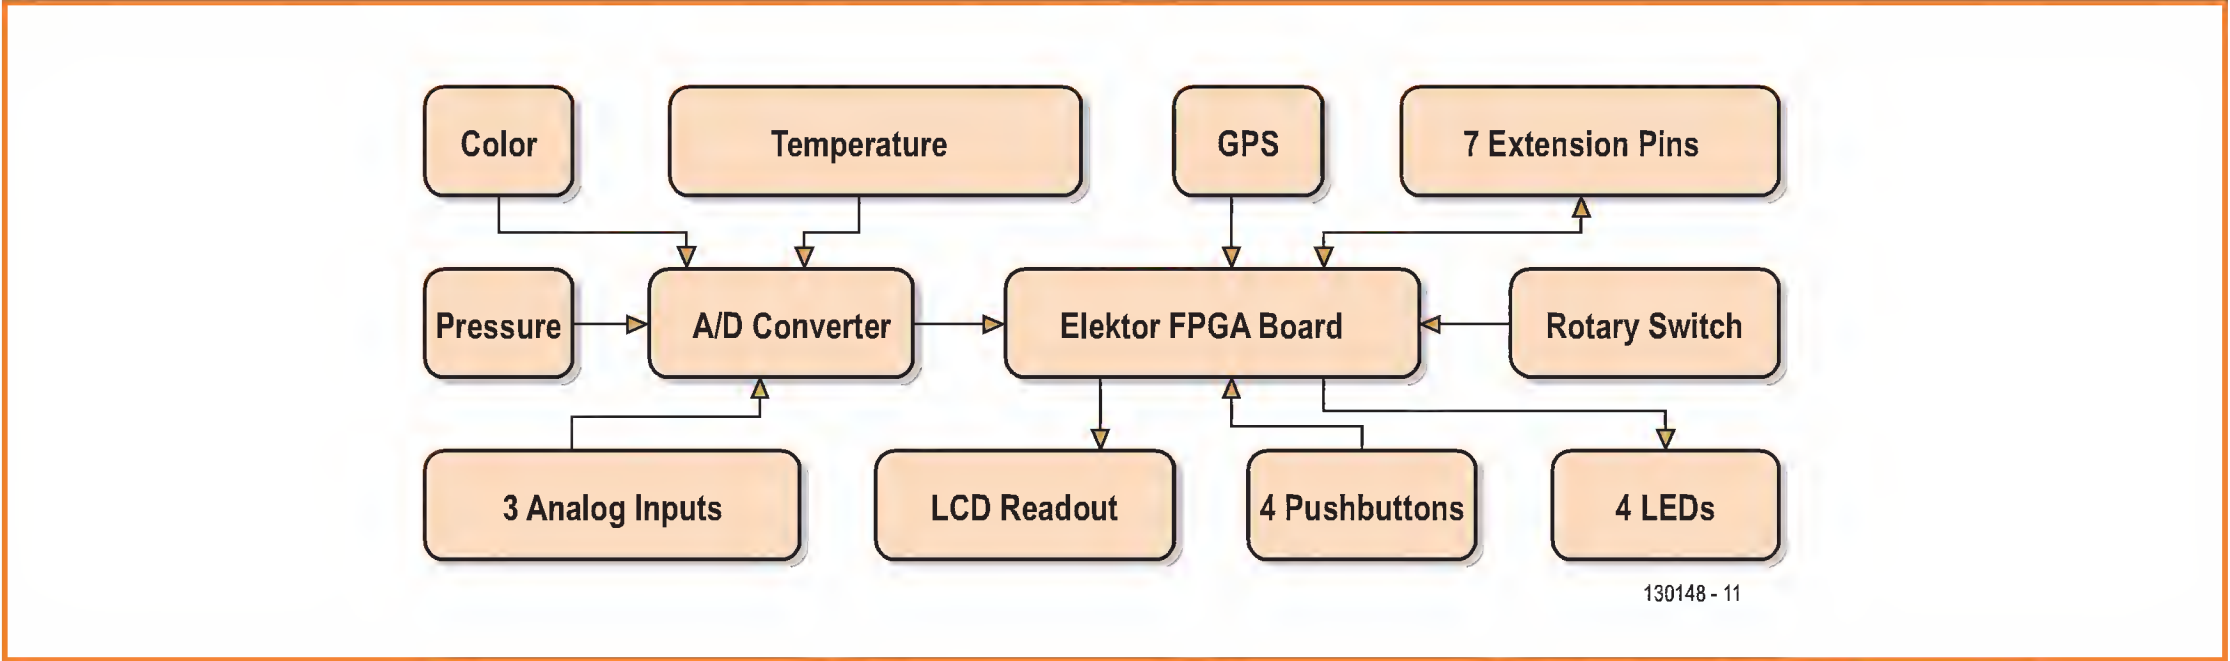

Figure 1.
**Figure 1** shows the expansion board block diagram. Peripheral components all connect to the FPGA. The simpler peripherals such as pushbuttons and the rotary encoder connect directly to FPGA I/O pins and require no specialized protocol to communicate. The LCD, GPS-module and A/D converter all transfer data and commands using a digital serial interface following their own protocol. Seven unused pins from the FPGA development board are available at a connector for general I/O use.